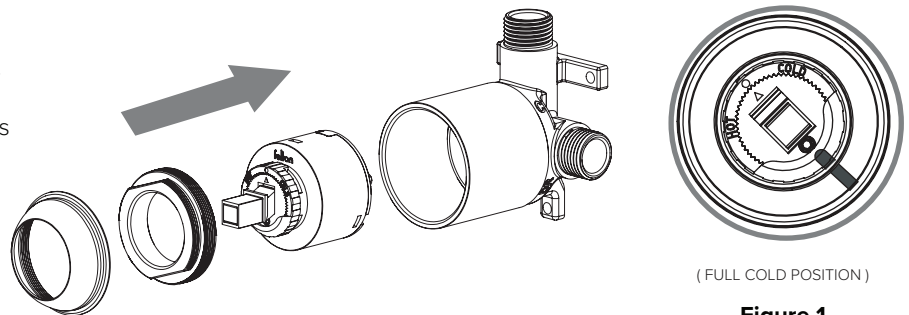

Figure 1.
5. Reassemble mixer. Ensure that both black lines marked on the cartridge and cartridge nut are aligned when the mixer is in full cold position as shown in Figure 1.